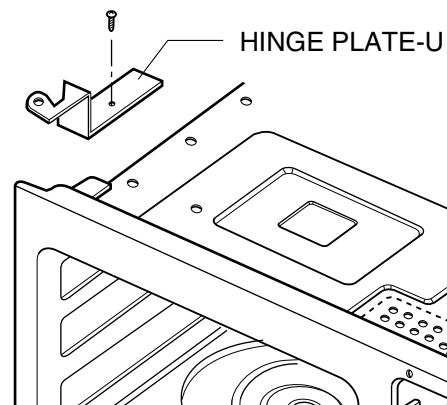

Fig. 16
C. REMOVING DOOR ASSEMBLY (FIG. 16)
- (1) Remove three tap tite screws securing the hingeplate-U to the hinge support.
- (2) To remove the door, tilt the top of the door towards you and lift the door up.